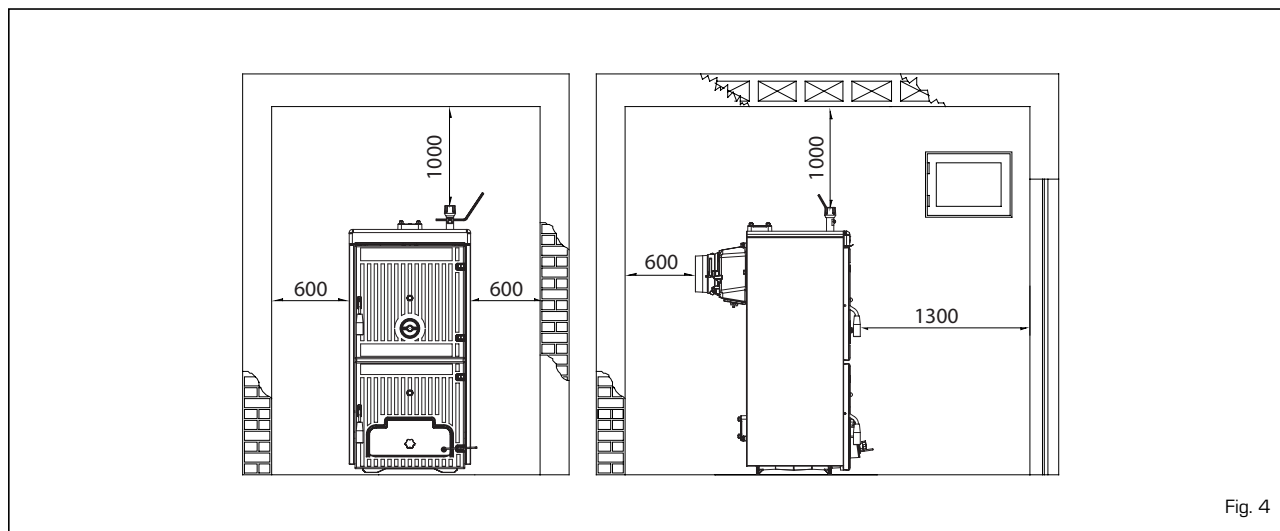

Fig. 4
4.1.1 Positioning in the power station (fig. 4)